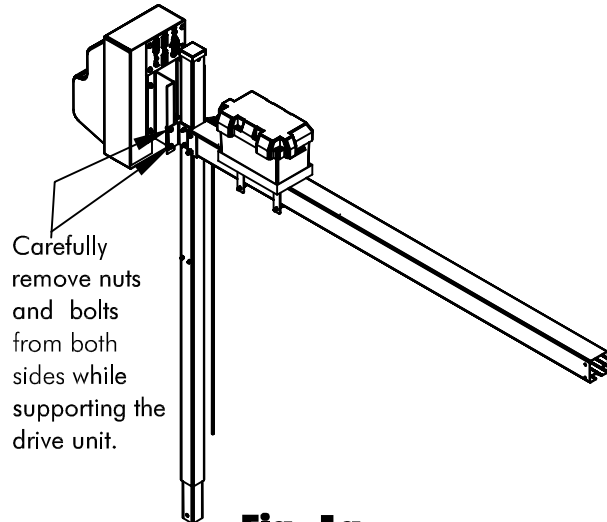

Fig. 1a
Step 3: Support the drive unit while removing the (4) nuts from the bolts as shown in fig 1a. While holding the drive up remove the bolts and separate the unit from the lift frame. Note: Do not discard the bolts, nuts, washers, and Hytrel spider. You will need them to attach the new VSD Drive Train.